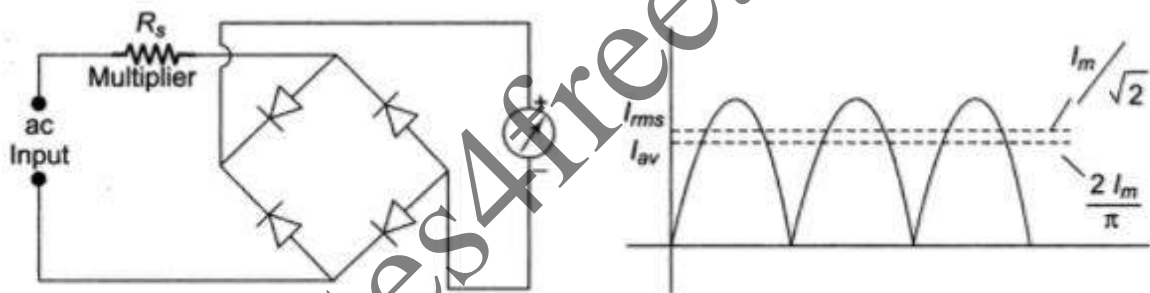

Fig. 3.8 (a) ac voltmeter (b) Average and RMS value of current
- Fig 3.8 (a) shows ac voltmeter having a multiplier, a bridge rectifier and basic meter movement.
- Bridge rectifier gives a full wave pulsating dc and meter indicates steady deflection proportional to the average value of the current as shown in Fig 3.8 (b). However the meter can be calibrated to give rms value of the input signal.